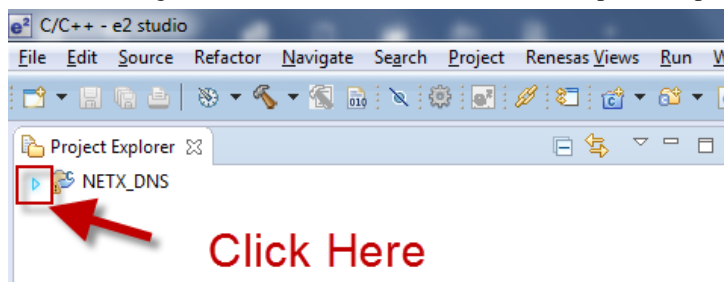

Figure 2.12 Collapsed Project Explorer
1. If the Project Explorer looks like Figure 2.12, click the arrow to the left to expand the project.